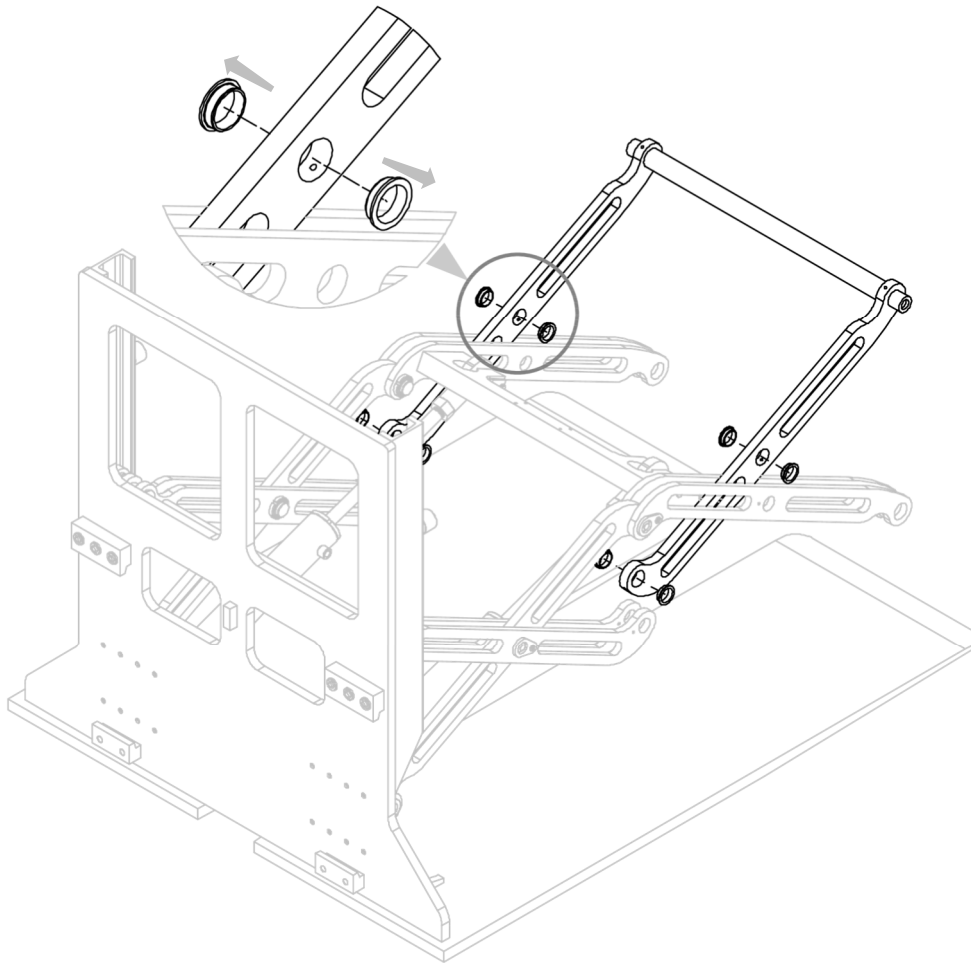

Figure 21
4. Remove the pair of arms from the equipment, with the relative swing bushes (see *Figure 21*).